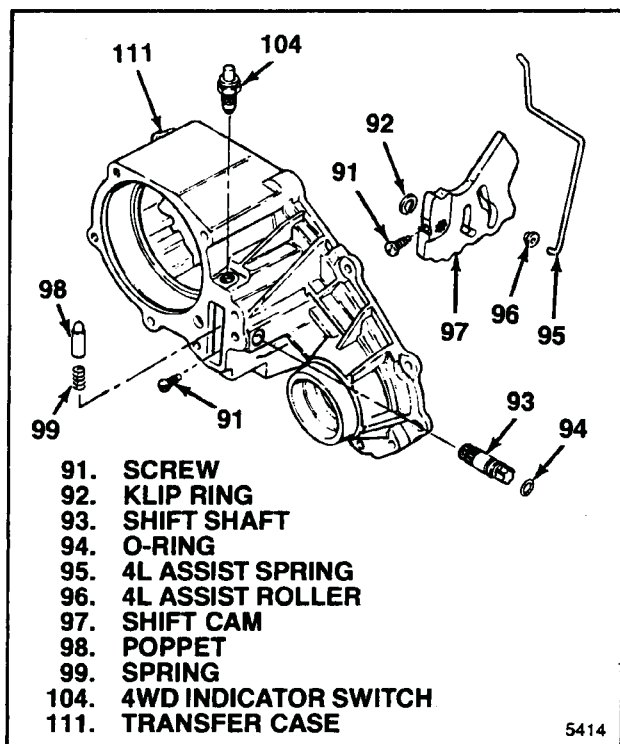

Figure 5-7. Mechanical Shift Cam Parts
5-7. ASSEMBLY OF SHIFT CAM PARTS (MECHANICAL SHIFT TRANSFER CASE ONLY). On mechanical shift units, install parts as follows (see figure 5-7):
a. Lubricate o-ring (94) and install on shift shaft (93). Start splined end of shift shaft into transfer case (111) until end is flush with inside of case. Position flats on outside end of shaft as shown in figure 5-7.
b. Apply petrolatum to spring (99) and poppet (98) and position these parts in hole in transfer case (111). Using care not to unseat poppet, insert shift cam (97) into transfer case in position shown in figure 5-7, with flat end of cam approximately parallel with front face of case. Pressing cam against poppet and compressing spring, align splines in cam and on shaft (93) and press shaft fully into cam.
c. Install klip ring (92) in groove near inside end of shift shaft (93).
d. Install two screws (91), one in end of shift cam (97) and one in transfer case. Torque screws to 4-7 lb-ft (6.8-9.5 Nm). Make sure that shift shaft (93) is fully engaged so that second screw end enters groove in shaft.
g. Install assist roller (96) on end of assist spring (95) and install in groove in shift cam (97) closest to shift shaft (93). Install other end of spring in hole in transfer case (111).
h. Install 4WD indicator switch (104) and torque to 25-35 lb-ft (34-47 Nm)